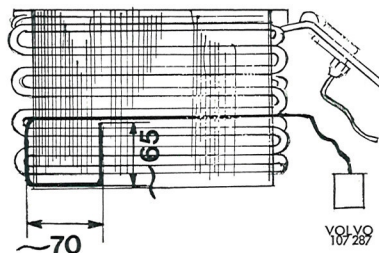

Fig. 8-95. Location of capillary tube in evaporator
6. Insert the new thermostat capillary in the evaporator and bend it according to the measurements in Fig. 8-95. It is important that no sharp bends are made on the capillary.